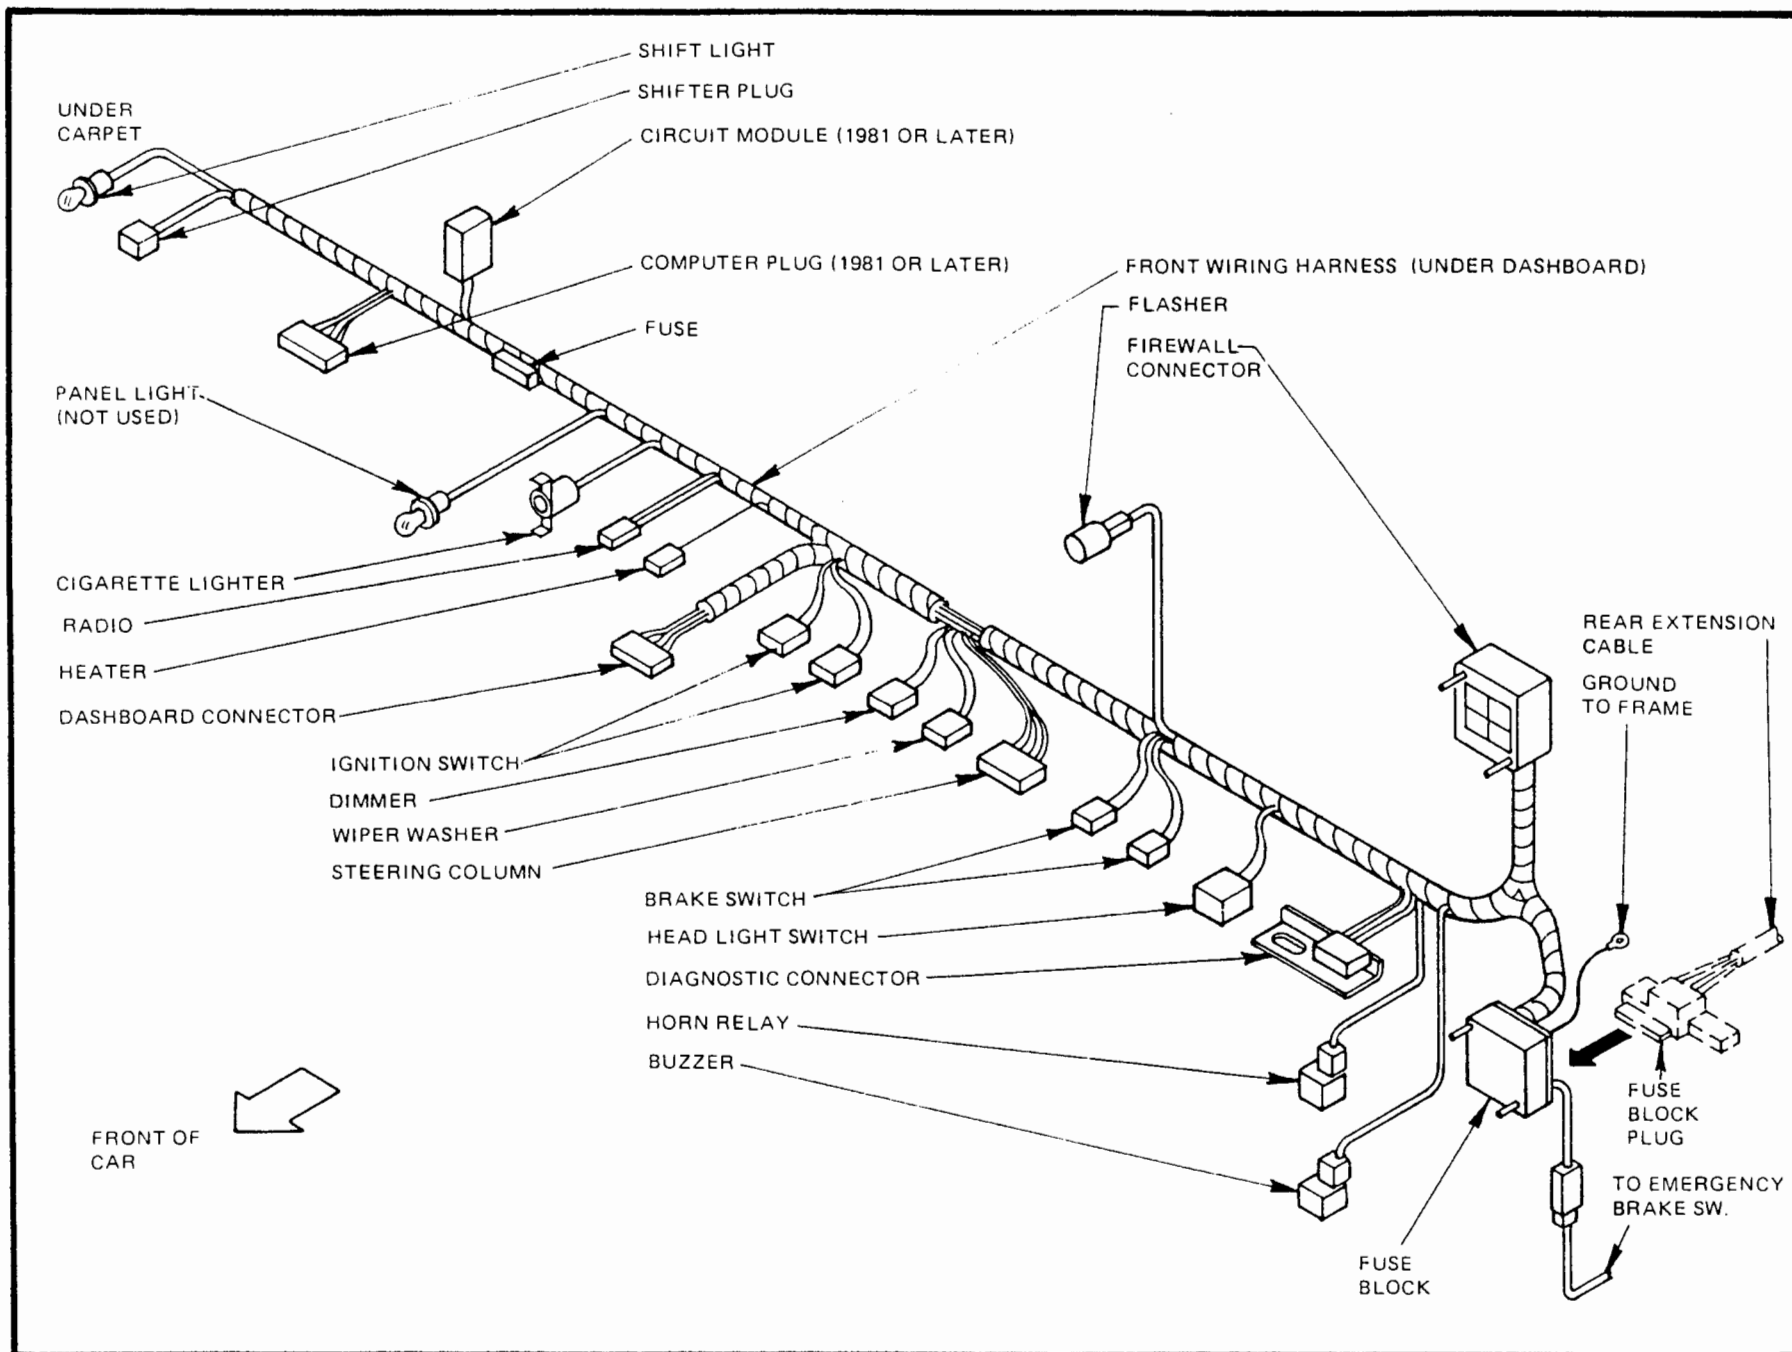

Figure 8
- Disconnect all plug connections under the dash. Mark all connections with masking tape to aid reconnection. Due to variations from year to year, there may be minor differences in the wiring harness of your particular Chevette. (More or fewer connections, different locations on harness, etc.) Marking with masking tape will insure correct reconnection. Remove the fuse block and the large rubber firewall plug from the body. Remove intact. Do not cut any wires. Remove the screw holding the heavy black ground wire to the frame (near the fuse block). (Fig. 8)